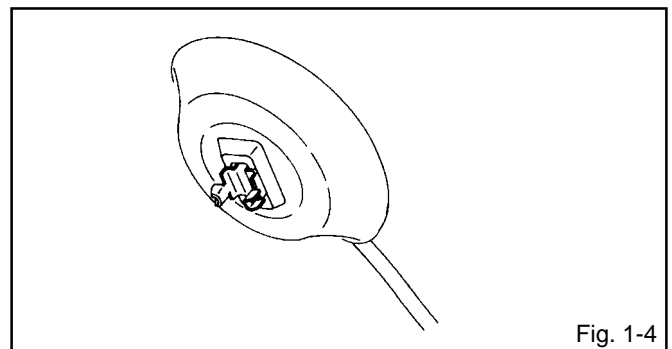

Fig. 1-4
3. Turn over the Rubber Cap. (Refer to Fig. 1-4.)